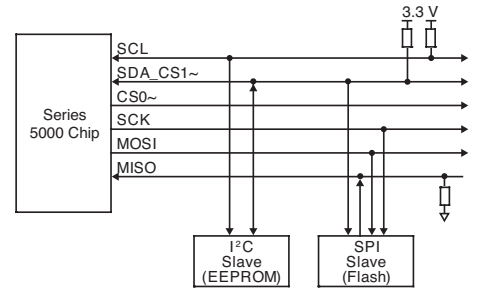

**Figure 3: Using the SPI Interface for External NVM Memories**
**Using the SPI interface.** The Neuron 5000 Processor is always the master SPI device; any external NVM devices are always slave devices. The Neuron 5000 Processor can support up to two SPI slave devices from the serial memory interface: one EEPROM device at CS0~ and one flash device at CS1~ (see Figure 3). The Neuron 5000 Processor supports 2-byte addressing mode for SPI EEPROM devices, but does not support 3-byte addressing. The Neuron 5000 Processor runs the SPI protocol from the serial memory interface at 2.5MHz and supports SPI Mode 0. In Mode 0, the base value of the clock is zero; the data is read on the clock's rising edge and changed on the clock's falling edge. Most external NVMs support SPI Modes 0 and 3.